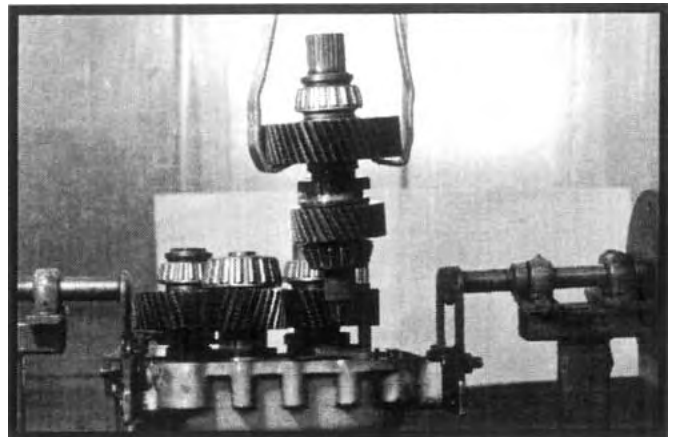

Figure 4.8
13. Lift the input shaft subassembly from the housing. See Figure 4.8.